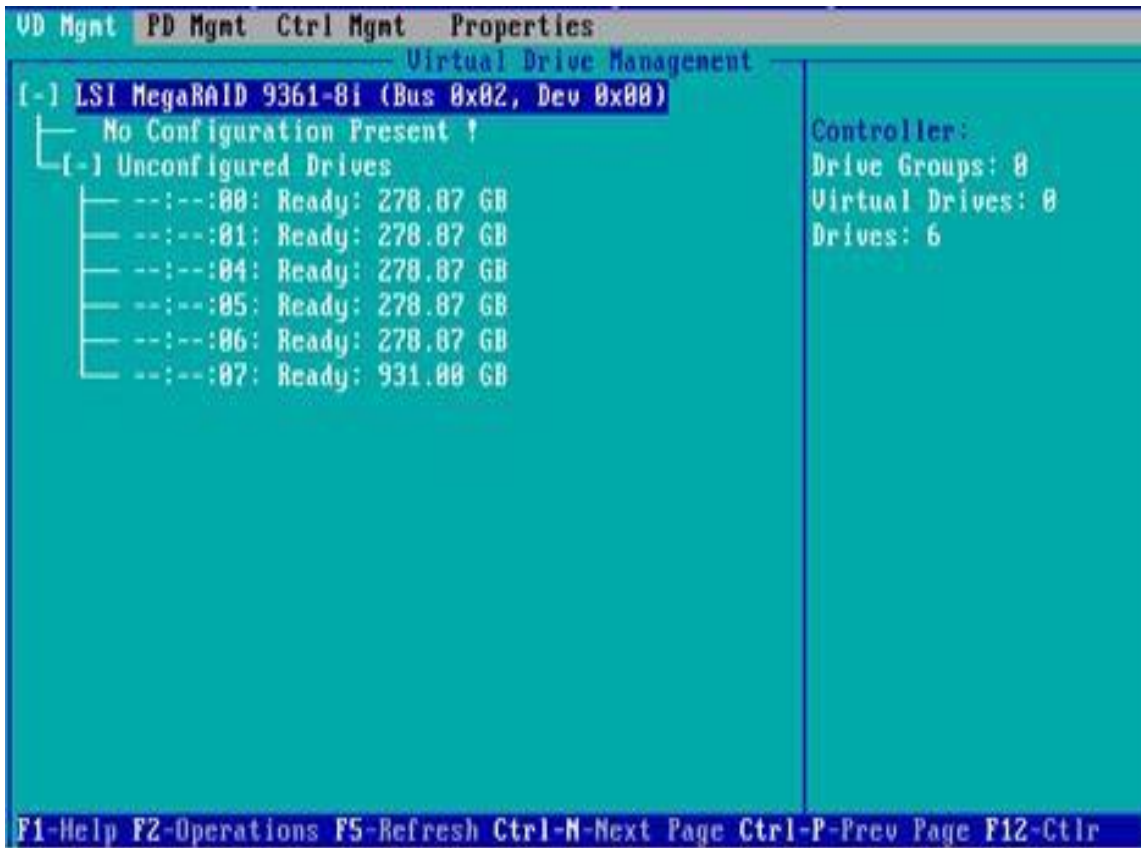

Figure 6-84
- b) Enter the interface shown in figure 6-84. Please refer to the key operation tips at the bottom border of the interface to realize navigation and modify settings in the interface.